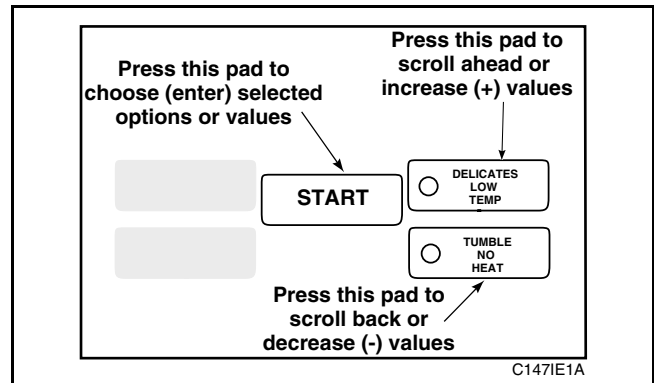

Figure 69
5. Press the LOW TEMP (+) pad or the NO HEAT (-) pad to increase or decrease the current coin value to the desired amount, *Figure 69*.